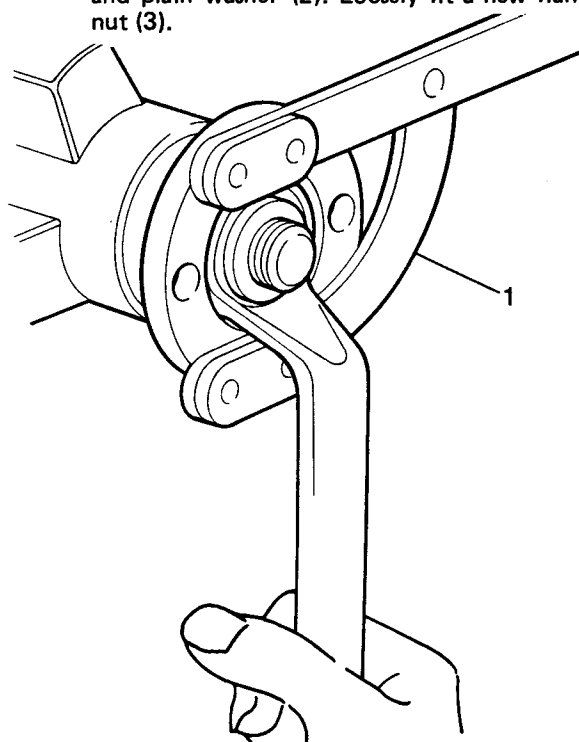

Fig J2.42
- (16) Refer to Fig J2.42. Secure special tool 18G-1205 (1) to the coupling flange using slave fixings.
- (17) Alternately tighten the flange nut and check the drive pinion resistance to rotation until the following figures are achieved as applicable: